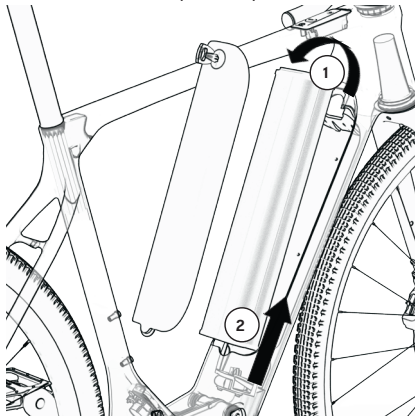
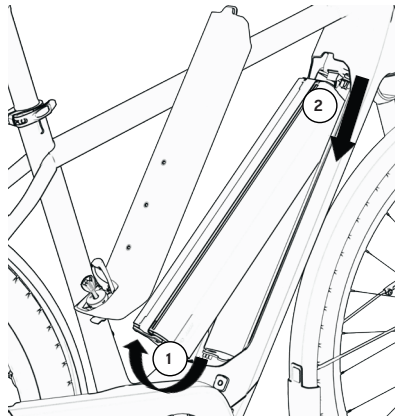

Fig. 3/ Lock side, top
Fig. 4/ Lock side, bottom
3. The battery can only be removed from the frame. To do so, swivel the battery out of the battery holder on the lock side ① and pull it out of the electrical contact compartment ②. The lock side may be at the top "Fig. 3/ Lock side, top" on page 20 or the bottom "Fig. 4/ Lock side, bottom" on page 20, depending on the model.